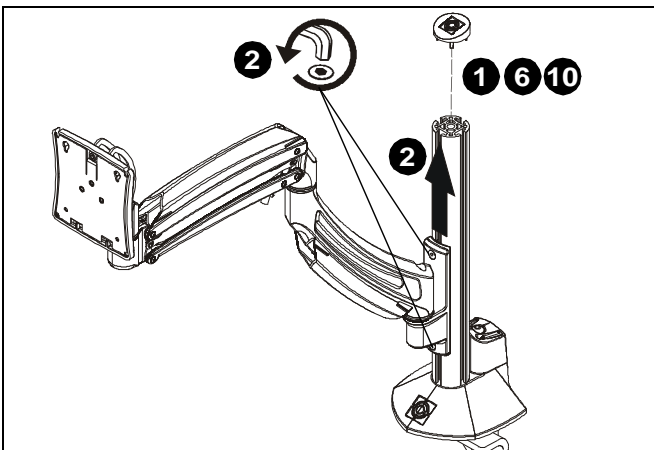

Figure 1
1. Remove cap from K1C column. (See Figure 1)
2. Loosen screws holding arm to column and slide arm off of column. (See Figure 1)
6. Remove cap from K1C column. (See Figure 1)
10. Remove cap from K1C column. (See Figure 1)